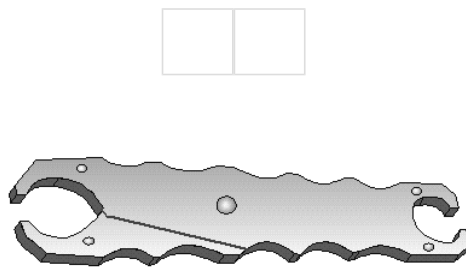

Figure 3-13.—Fuse puller.
- **After first making certain that the circuit is dead, use a fuse puller (figure 3-13) to remove** cartridge fuses.